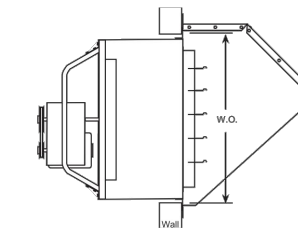

Figure 6 — Wall Collar Installation
4. Figure 6 shows the wall collar installation.